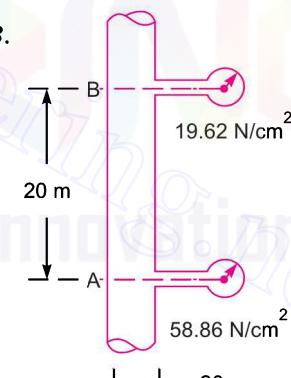

Fig. 9.5
**Problem 9.4** Crude oil of  $\mu = 1.5 \text{ poise}$  and relative density 0.9 flows through a 20 mm diameter vertical pipe. The pressure gauges fixed 20 m apart read  $58.86 \text{ N/cm}^2$  and  $19.62 \text{ N/cm}^2$  as shown in Fig. 9.5. Find the direction and rate of flow through the pipe.